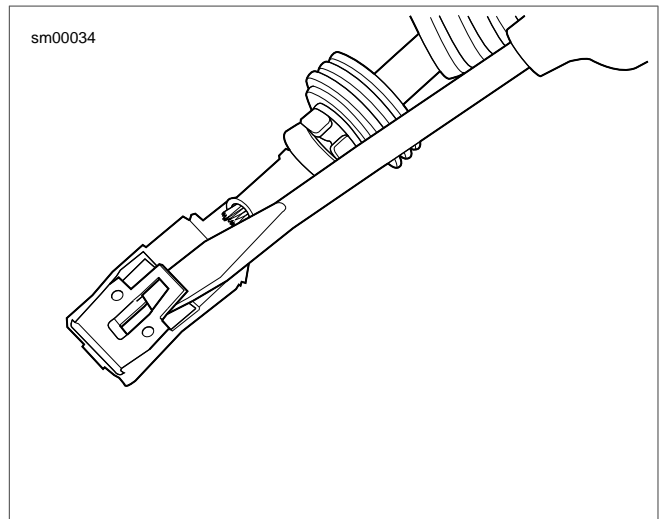

Figure A-30. Delphi Main Fuse Housing: Bend Tang
1. See Figure A-30. Carefully bend tang outward away from the terminal body.